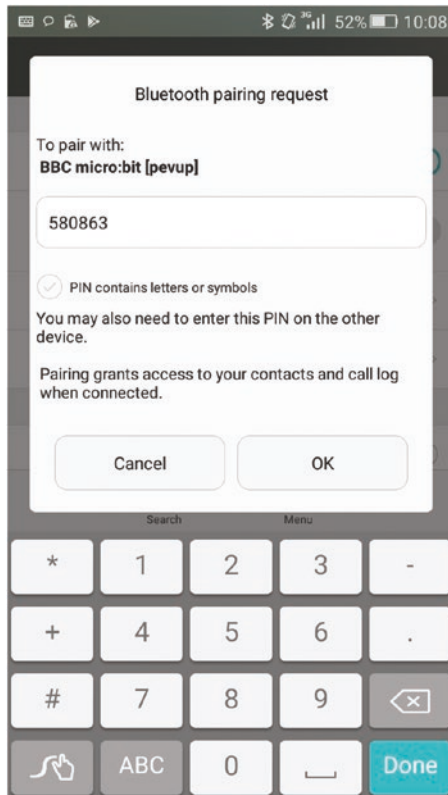

Figure B-22. Pairing the PIN (image captured from a Huawei CHC-U0I phone)
8. Enter the six digits that the micro:bit displayed on your Android smartphone in the pop-up box provided. Select Done. See Figure B-22.